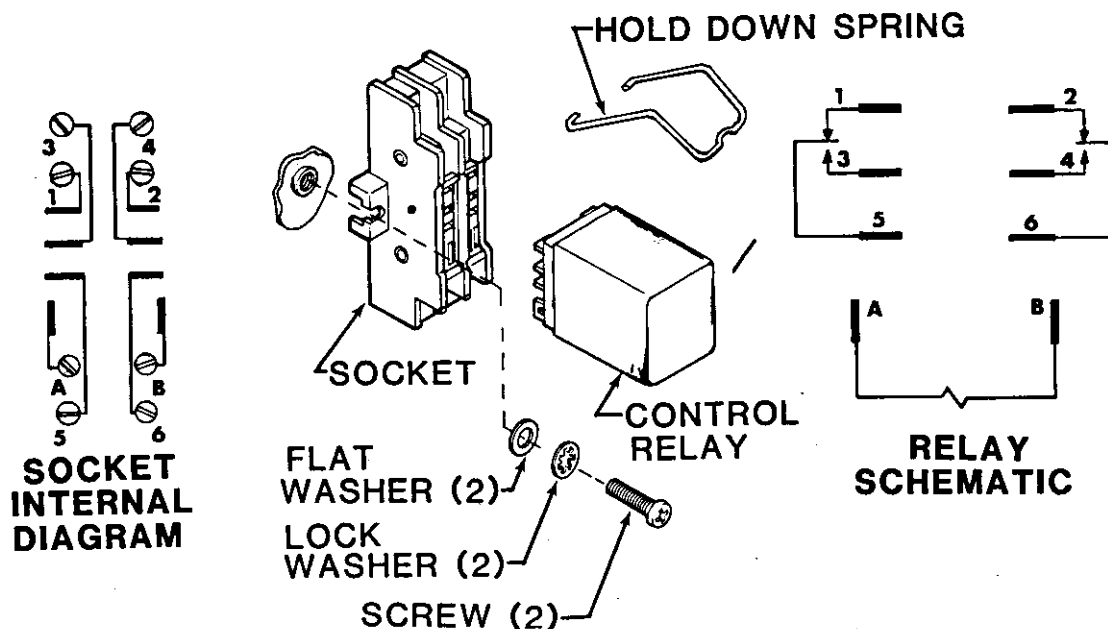

Figure 5-16A. Control Relay (K11)
(2) If relay fails above tests, replace relay.
(3) Using a multimeter and socket internal diagram shown on figure 5-16A, check continuity between contacts and terminals of control relay socket.